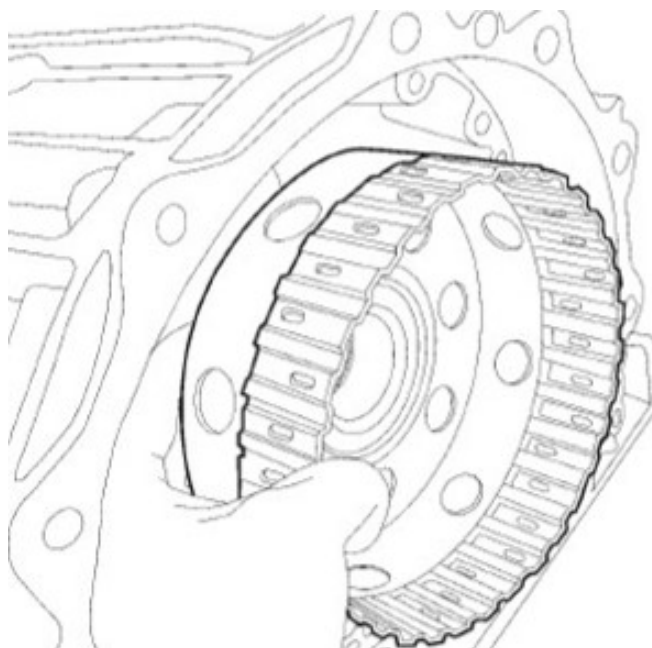

Fig. 10
12. Remove and inspect the K1 thrust bearing number two Fig. 10. **Replace only if needed.**
17. Lubricate with trans jel or petroleum jelly and install K1 thrust bearing number two into K1 Clutch Hub Fig. 10.
18. Install the K1 clutch hub and thrust bearing into the transmission case Fig. 10.